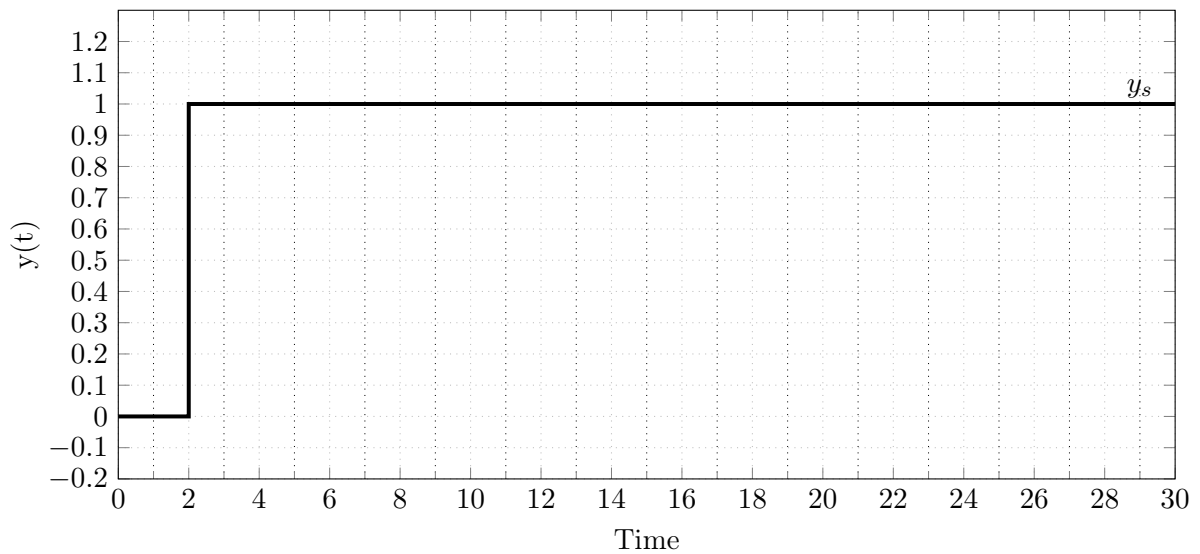

Figure 2: Closed-loop responses for setpoint changes for PI and PID
- (d) Sketch in Fig. 2 the closed-loop response for a step in setpoint for both the PI and PID controllers with the obtained tuning parameters.